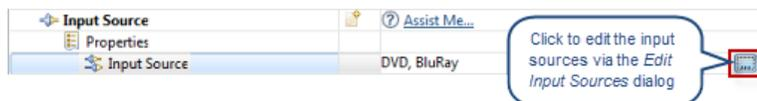

FIG. 70 Editing an Input Source
1. Click on an input source (in the Device Control table) to enable the *Edit (...)* button (FIG. 70):